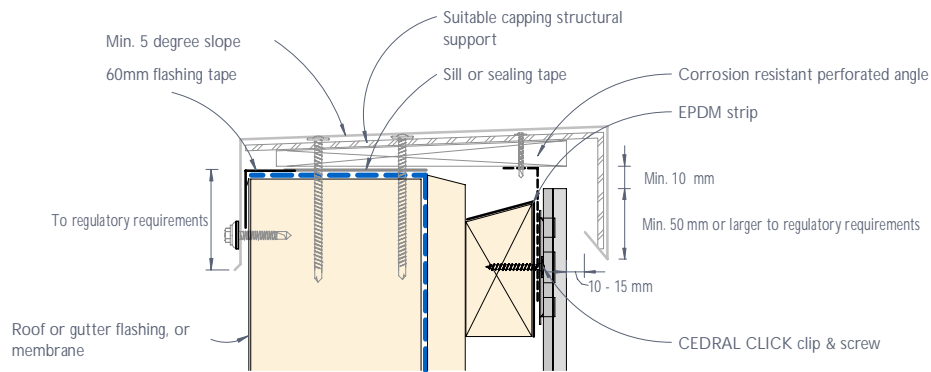

Figure 40: CEDRAL CLICK typical capping detail
- 2) Capping shall be designed and engineered accordingly to provide adequate allowance for ventilation as shown in Figures 40 & 41.